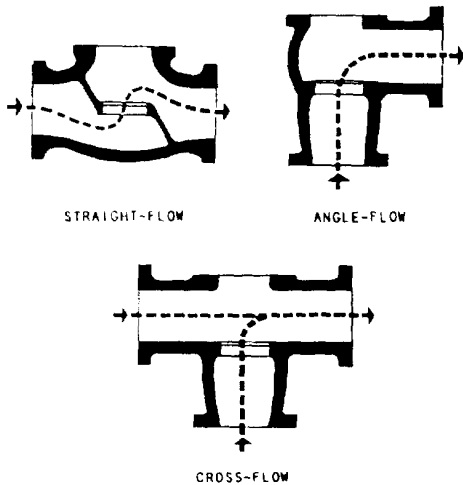

Figure 6-1.—Types of globe valve bodies.
**GLOBE VALVES.**—Globe valves are probably the most common valves in existence. The globe valve derives its name from the globular shape of the valve body. However, positive identification of a globe valve must be made internally because other valve types may have globular appearing bodies. Globe valve inlet and outlet openings are arranged in several ways to suit varying requirements of flow. Figure 6-1 shows the common types of globe valve bodies; straight-flow, angle-flow, and cross-flow. Globe valves are used extensively throughout the engineering plant and other parts of the ship in a variety of systems.